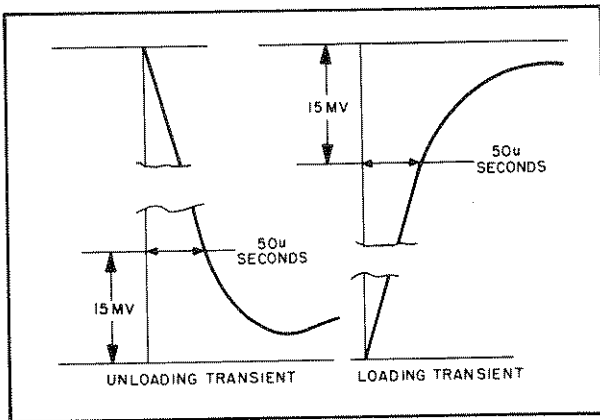

Figure 5-10. Transient Recovery Time, Waveforms
- k. Starting from the major graticule division representative of time zero, count to the right  $50 \mu\text{sec}$  and vertically  $10 \text{mV}$ . Recovery should be within these tolerances as illustrated in Figure 5-10